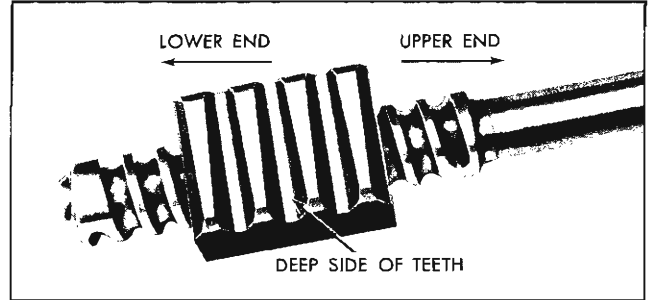

Fig. 9-27 Ball Nut Properly Installed on Shaft
1. Position ball nut on shaft so that deep side of teeth are located as shown in Fig. 9-27.